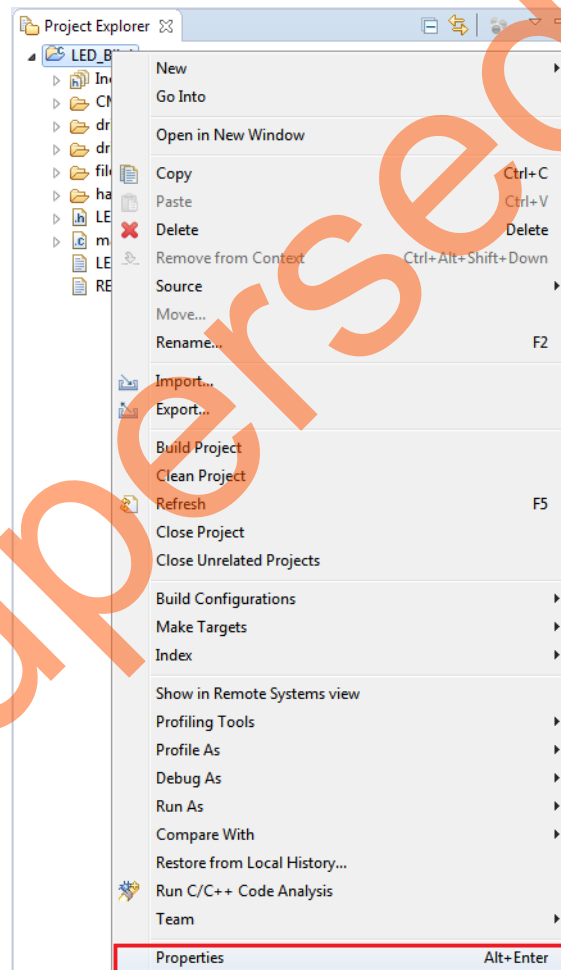

Figure 33 • Project Explorer window - Properties
15. Right-click **LED_Blink** and click **Properties**, as shown in Figure 33.